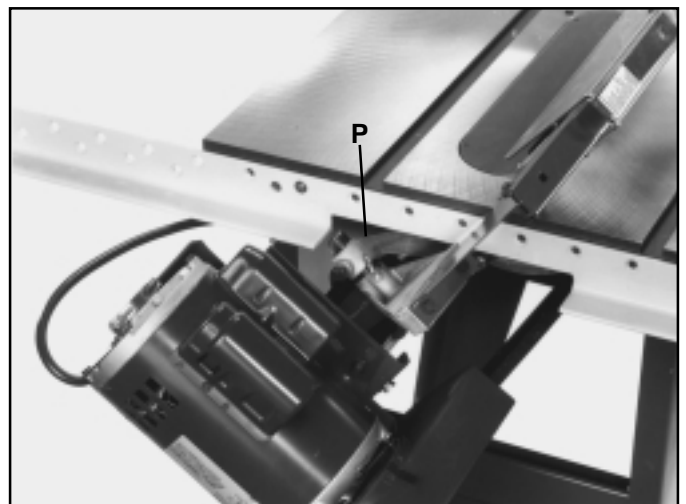

Fig. 14
14. After fastening the rear rail to the saw table, tilt saw blade to make certain there is no interference between the guard, splitter and rear rail. If there is, it will be necessary to enlarge the cutout area (P) Fig. 14, in the rear rail.